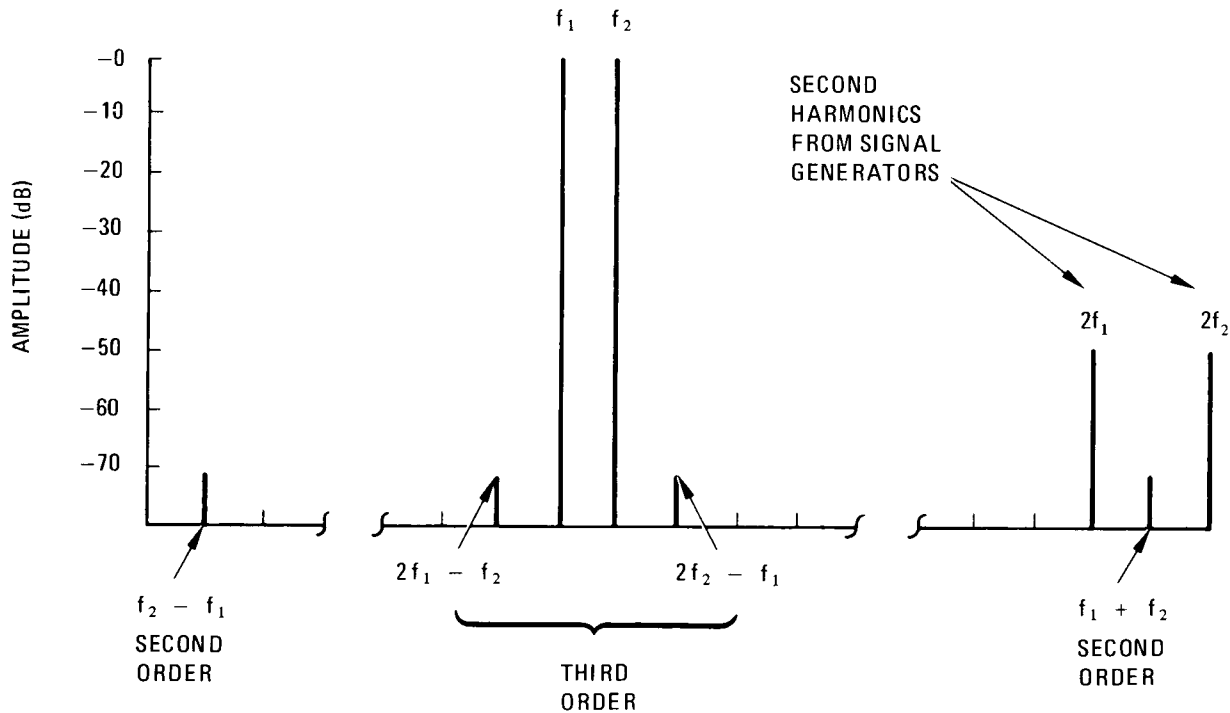

Figure 4-16. Intermodulation Distortion Products
17. Reduce spectrum analyzer RESOLUTION BW control to 3 kHz and check for third order intermodulation distortion products at approximately 3 divisions from center graticule line (see NOTE below). They should be more than 70 dB below both input signals ( $-110$  dBm on spectrum analyzer display). (See Figure 4-16.)
18. Set HP 8557A TUNING control to approximately 1 MHz and tune second order intermodulation distortion product  $f_2 - f_1$  at 1 MHz to center screen. (See NOTE above.) Reduce the outputs of both signal generators by 3 dB. Second order intermodulation distortion product should be more than 70 dB below the total applied signal (-110 dBm on the spectrum analyzer display). (See Figure 4-16.)
20. Check for second order intermodulation distortion product ( $f_1 + f_2$ ) near center of display (between  $2f_1$  and  $2f_2$  signals). See Figure 4-16. Signal should be more than 70 dB below the total applied signal (-110 dBm on spectrum analyzer display).
22. Adjust the output levels of both signal generators for -40 dBm displayed on the spectrum analyzer. Third order intermodulation products should be more than 70 dB below input signals. (-110 dBm on signal generator display.) (See Figure 4-16.)
25. Reduce signal generator outputs by 3 dB each. Tune the HP 8557A to 50 kHz (2.5 divisions above LO feedthru). Check for second order intermodulation distortion product ( $f_2 - f_1$ ) at 50 kHz. Signal should be more than 60 dB below total applied signal (-100 dBm on spectrum analyzer display). See Figure 4-16. It might be necessary to adjust VIDEO FILTER to observe the signal.
26. Set HP 8557A TUNING control to 1.8 MHz and check for second order intermodulation distortion product ( $f_1 + f_2$ ) near center of display (between  $2f_1$  and  $2f_2$  signals). See Figure 4-16. Signal should be more than 60 dB below total applied signal (-100 dBm on spectrum analyzer display).